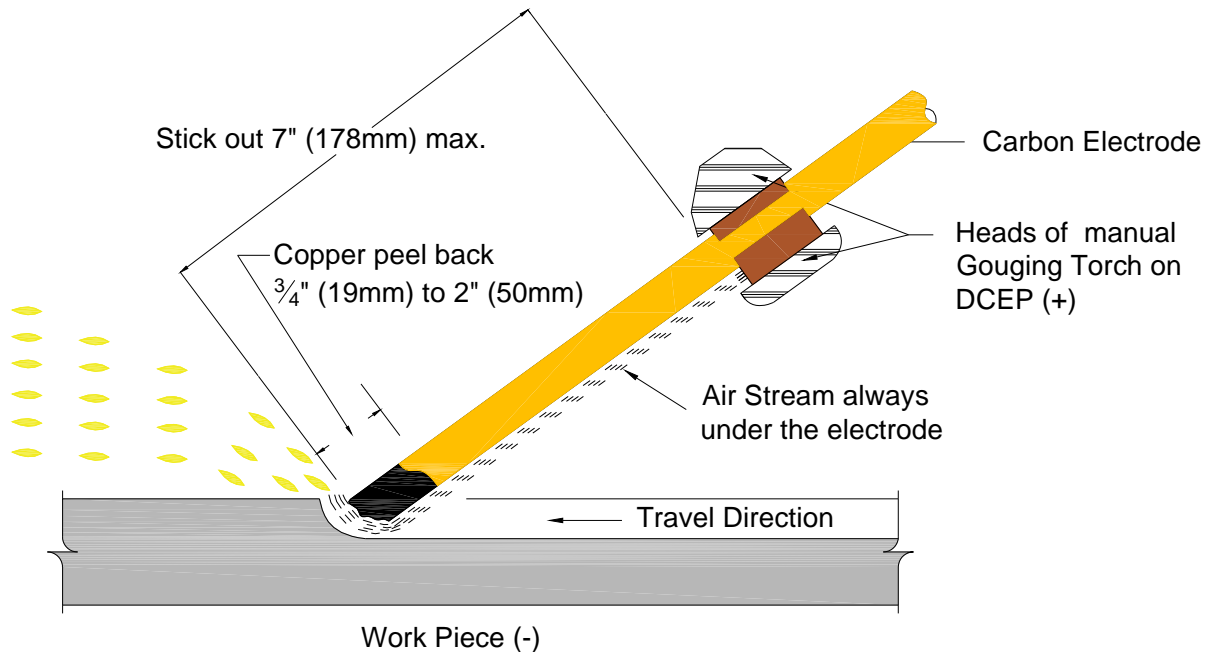

Figure 3.2 Air carbon arc with air stream location
- 3.2 Generally for steel, DCEP is used. The maximum stick out for steel is 7" and the minimum is 2". Any less than 2" will damage the torch parts. For general use, 80 psi and 25 to 33 cfm are required. The air stream must be between the electrode and work piece, see figure 3.2 below. Amperage range is based on electrode diameter, see table 2.2.
- 3.4 Use a fore hand or push travel angle. The angle should be about 35° from the work surface for most applications, see figure 3.2 above.